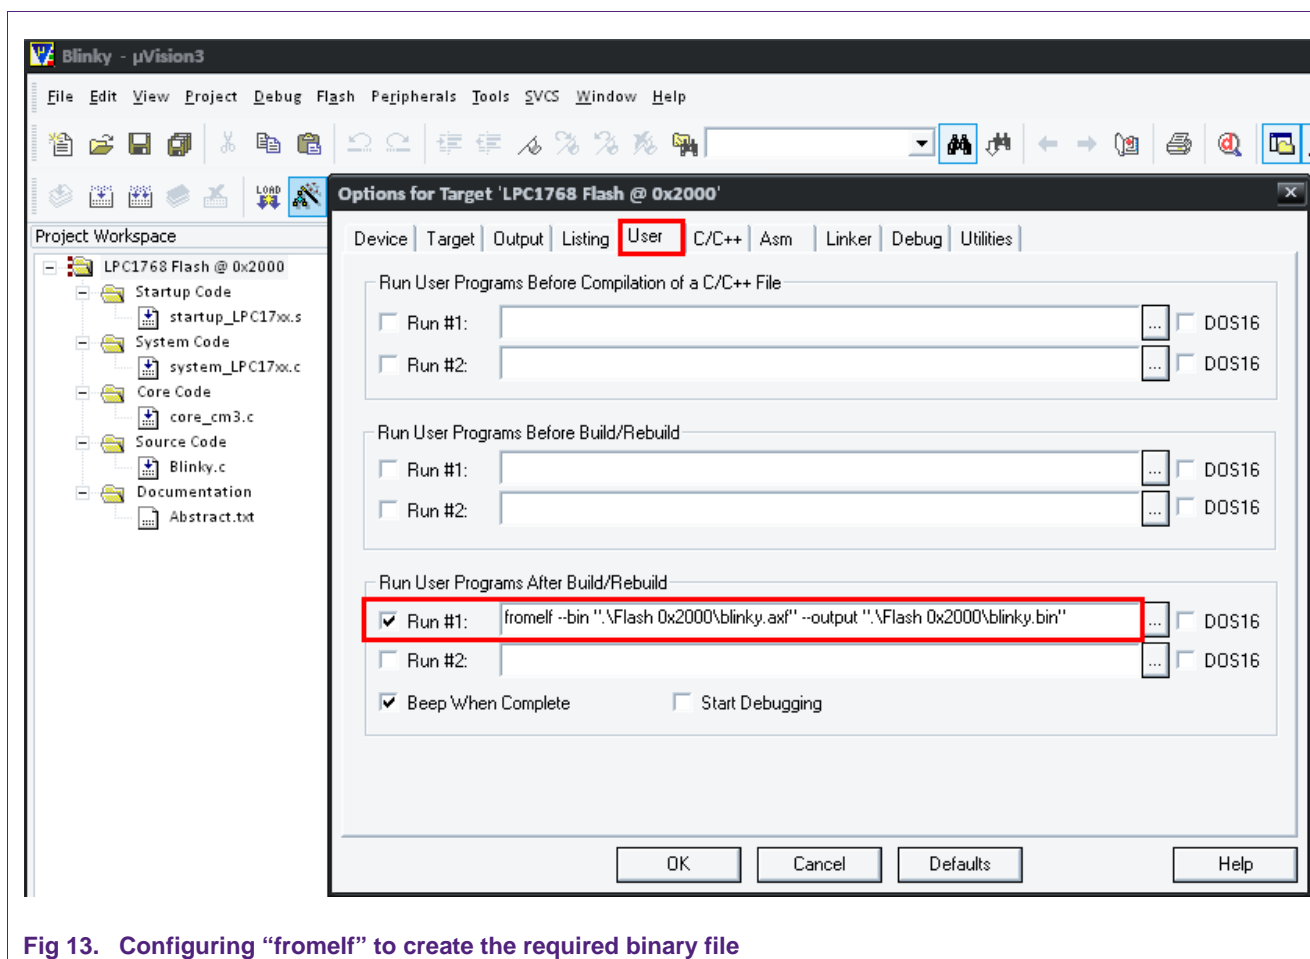

Fig 13. Configuring “fromelf” to create the required binary file
- Type in the command to run the `fromelf` tool which can be seen in Fig 13.